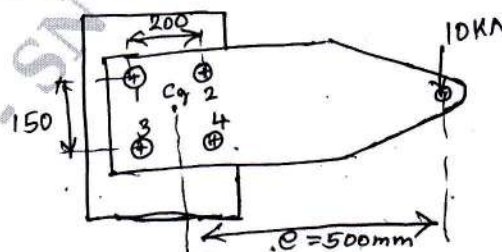

Fig.Q9(b)
- b. The structural connection as shown in Fig.Q9(b) is subjected to eccentricity head P of 10 kN with eccentricity of 500 mm. Centre distance between bolts 1 and 3 is 150mm and between bolts 1 and 2 is 200mm. All bolts are identical. Yield strength of given material is 400 MPa and FOS = 2.5. Find size of bolts.